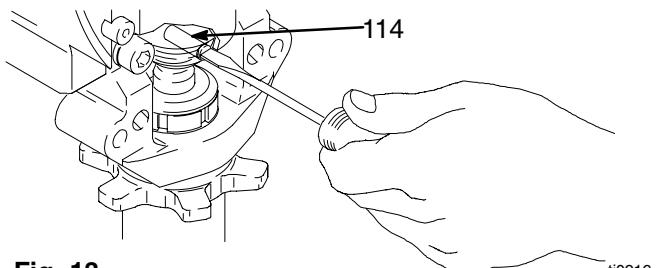

Fig. 13
3. Fig. 13. Use screwdriver: push retaining spring up and push out pin.
2. Fig. 13. Push pin (21) into hole. And push retaining spring into groove all the way around connecting rod.